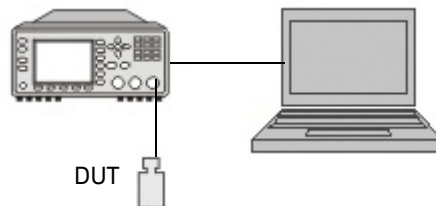

Figure 4-1 Zero set performance verification equipment setup
- 1 Connect the DUT (E-Series E9300 power sensor) to the power meter as shown in Figure 4-1.